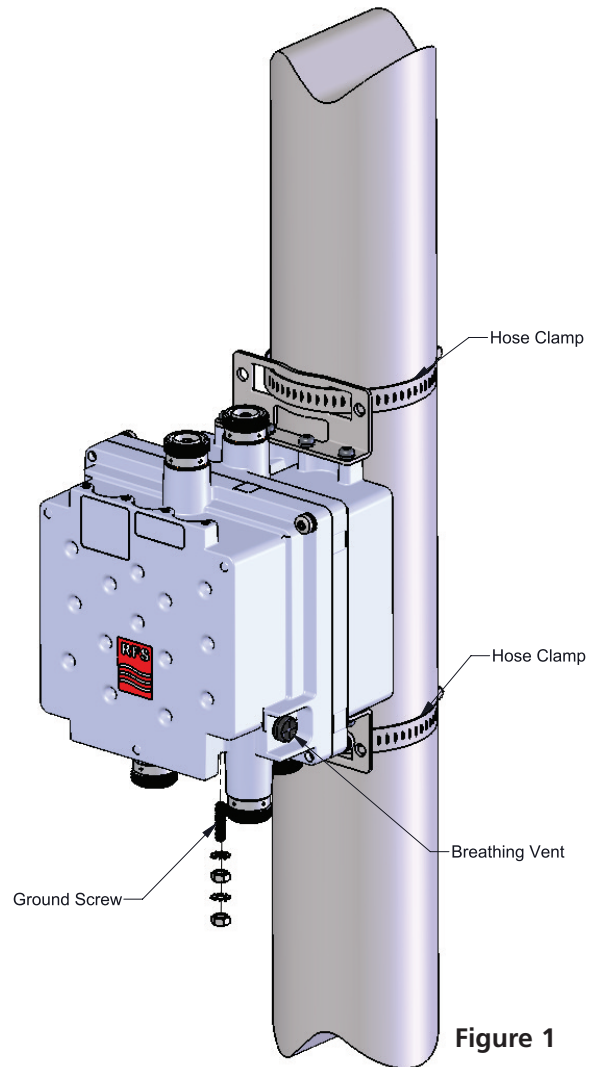

Figure 1
3. Attach the ground cable onto the assembled grounding hardware and tighten the grounding nuts with 4 Nm (3 ft-lbs) torque. **(Figure 1)**
4. Slide the two stainless clamps through the holes of the bracket **(Figure 1)**.
5. Fix the clamps/bracket to the pole with 10 Nm (7.5 ft-lbs) torque **(Figure 1)**.
6. Adjust the length of the ground cable and fix it onto the tower ground connection **(Figure 1)**.